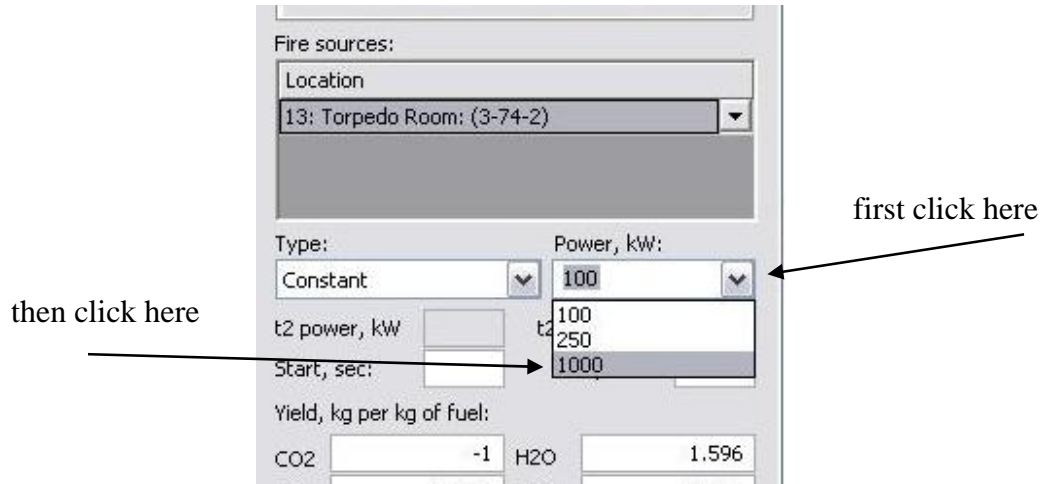

Figure 3.5 Power Settings
Step 5: Change the Power to 1000 (Figure 3.5)